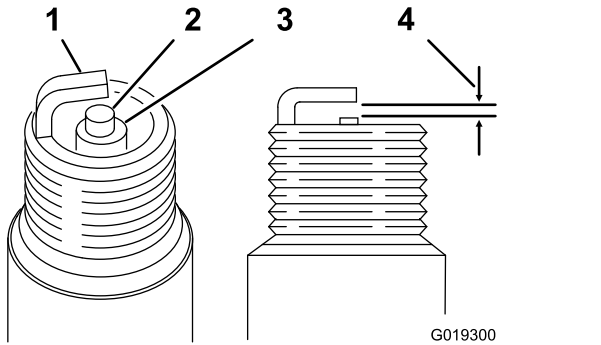

Figure 42
- For each spark plug, set the gap between the center electrode and the side electrode to 0.76 mm (0.030 inch); refer to Figure 42. Install each of the correctly gapped spark plugs with a gasket seal, and tighten the plugs to 22 N·m (16 ft-lb).